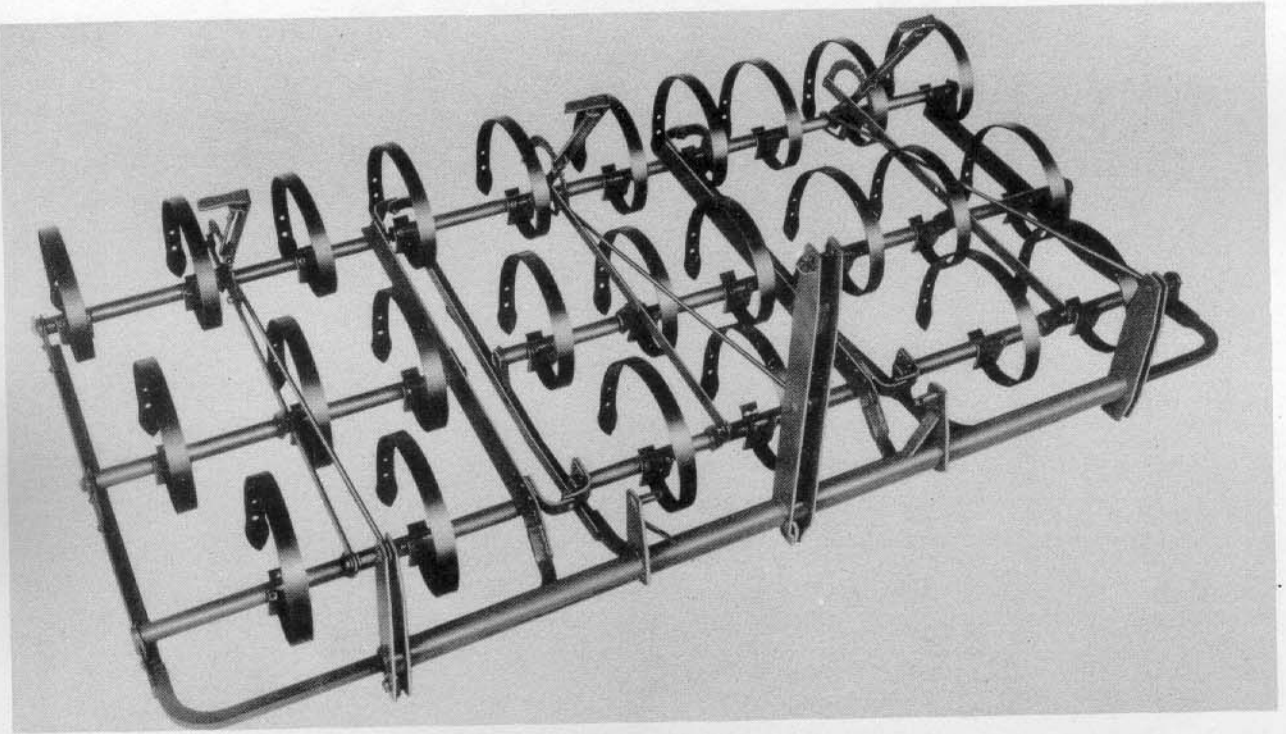

Figure 1
3. Place the sections in approximately the position as shown in Figure 1.